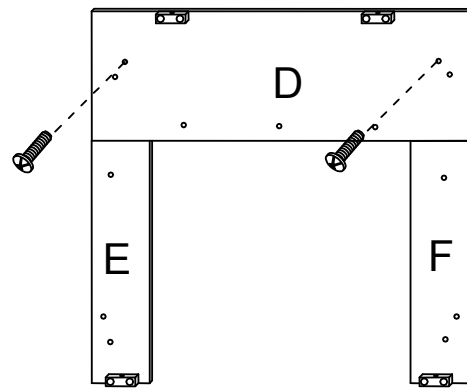

Figure 3
Attach the **Front Panel (D)** to the **Right & Left Front Panels** on top of the panels (E & F) using 2 **KD SCREWS (U)**. See Figure 3.